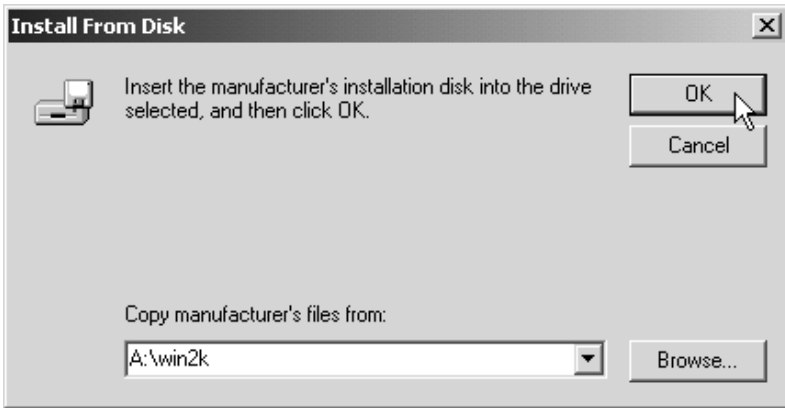

Figure 43. Install From Disk
- 3 The **Install from Disk** (Figure 43) dialog appears. Insert the 3ware driver installation diskette and type the correct path name in **Copy manufacturer's files from:** near the bottom of the box. The correct path name is A:\win2k.